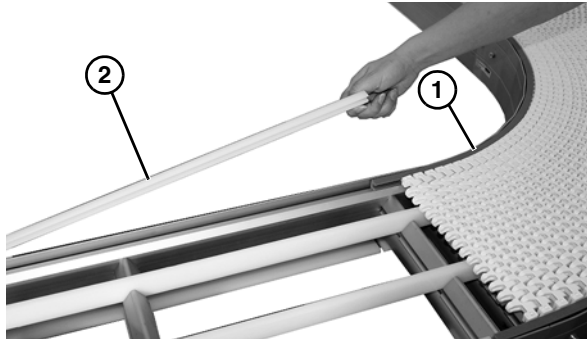

Figure 13
5. On curve conveyors, install belt through wear strip (Figure 13, item 1) and install wear strip (Figure 13, item 2) on straight conveyor sections before installing and connecting belt.